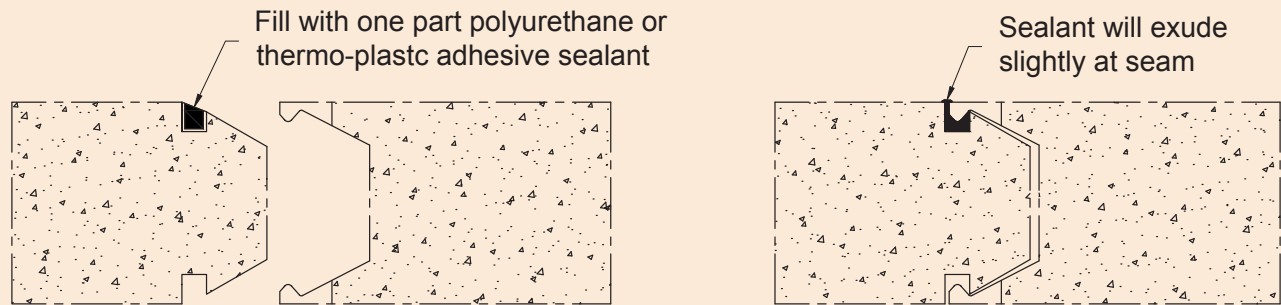

FIGURE 5 PANEL LOCKING
- C. Each panel seam (see figures 5).